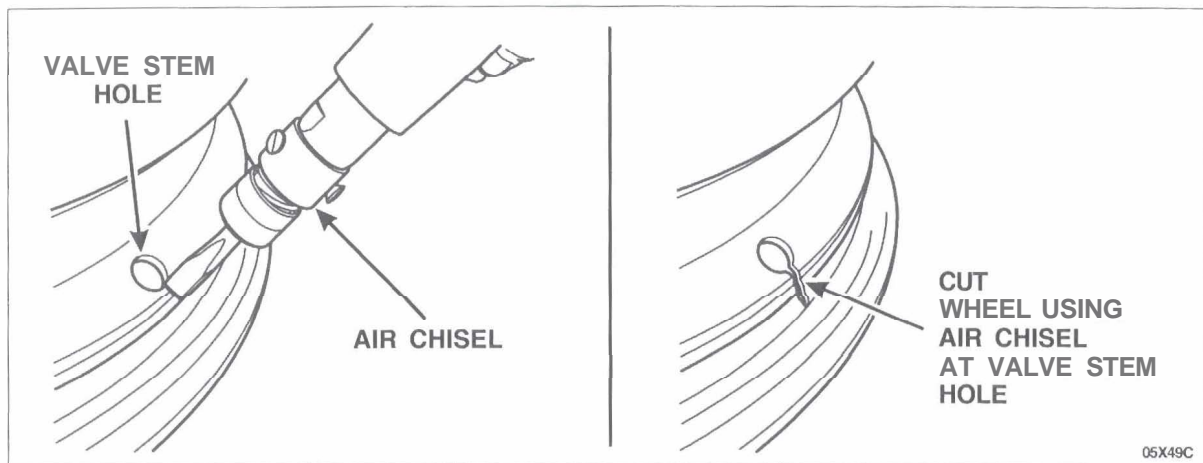

FIGURE 3
1. **With** the wheel facing down, use an air chisel with a sharp bit to cut a gouge no less than 12 mm (1/2 inch) long in the wheel from the valve stem hole down toward the bead area. The gouge must be large enough and the wheel deformed enough to make sure it cannot be easily repaired. See Figure 3.